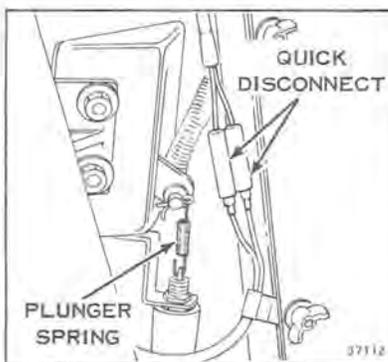

Figure 10-13
- c. Remove brakelamp plunger spring from actuator cam arm. See Figure 10-13.